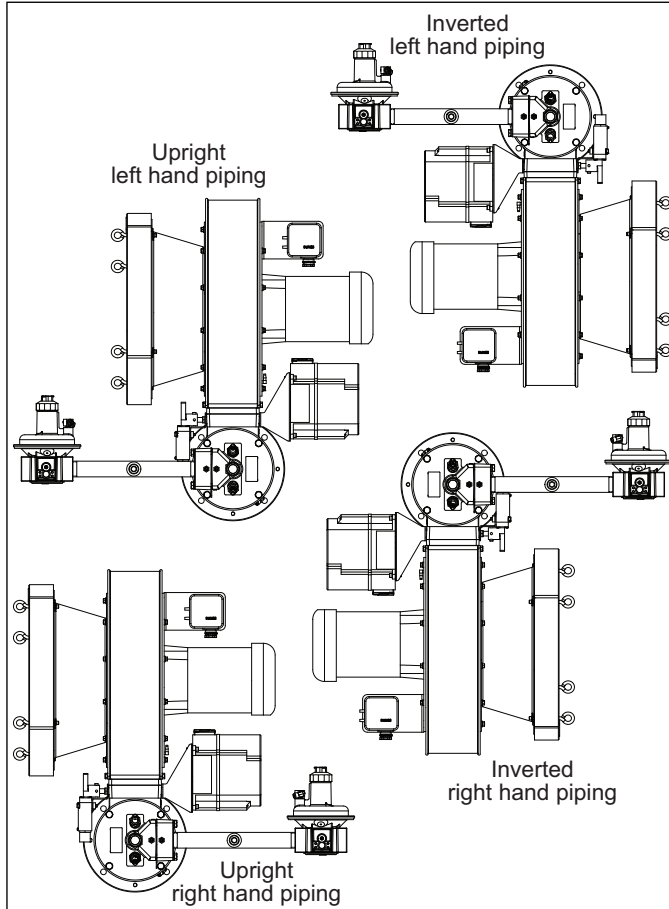

Figure 3.1. Configuration Selection and Motor Orientation Choice
- **Fuel Type:** Variation in calorific value, specific gravity and WOBBE index will affect burner performance. If any of these parameters change more than ±5% from Figure 3.1 contact Eclipse to check the suitability of the fuel. Performance data, dimensions and specifications are given for each RatioAir in Datasheets 115-1 through 115-11.